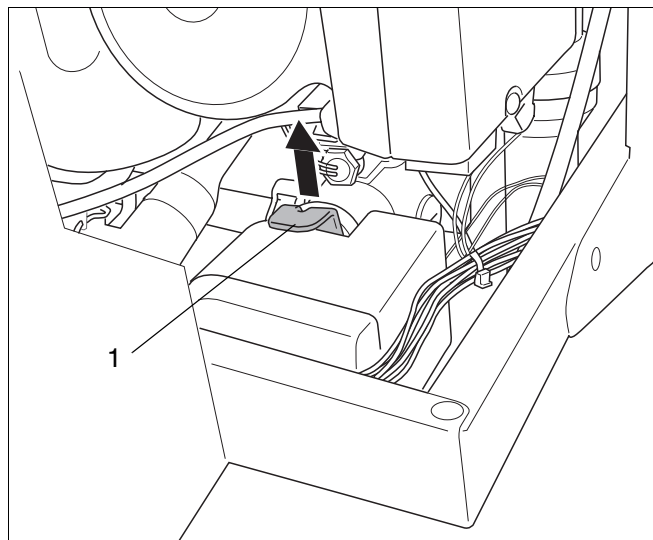

fig. 95 Remove securing pin
- Remove the securing pin (see fig. 95, item 1) and remove the servomotor.
- Remove the securing pin (see fig. 95, item 1).